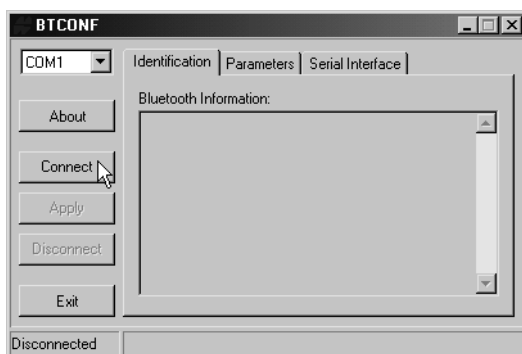

Figure 2-35. Select Communication Port and Click Connect
4. From the drop-down list in the upper left corner, select the computer serial port (usually COM1) used for communication (Figure 2-35).
- Click **Connect** to connect the computer and Bluetooth module (Figure 2-35 on page 2-36).